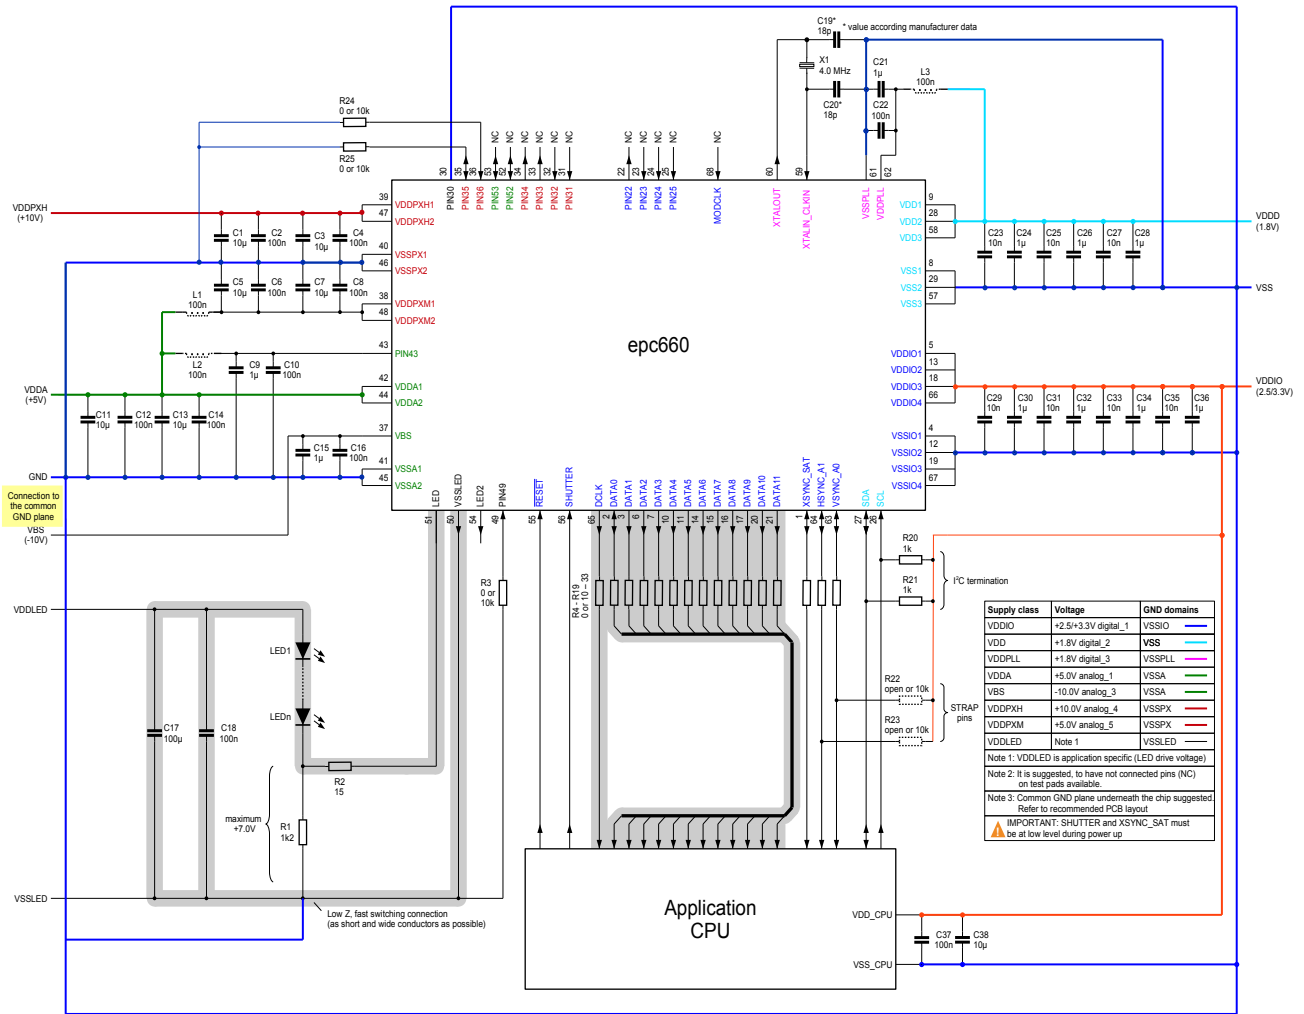
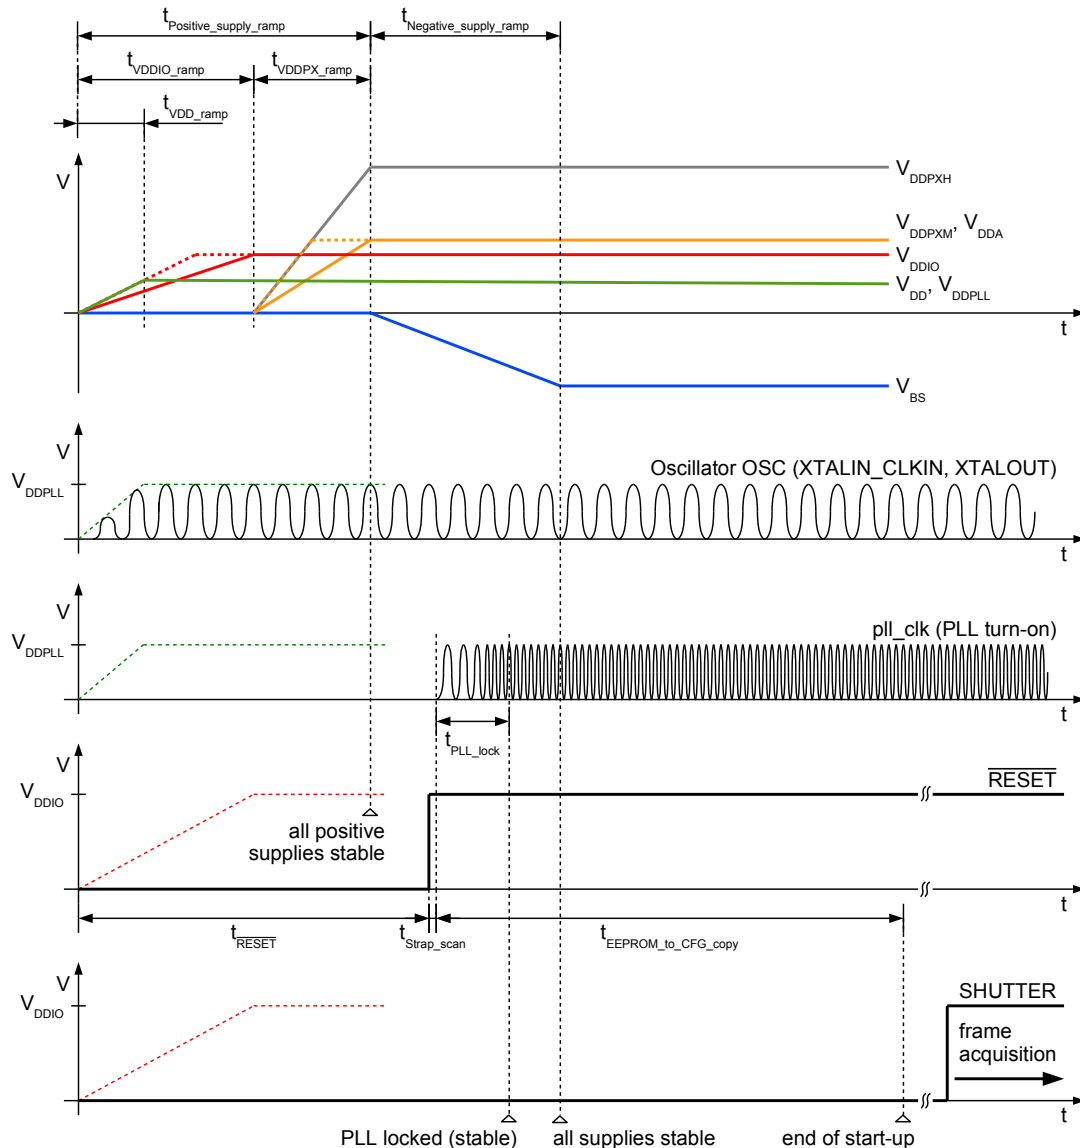

Figure 17: Typical application diagram
Figure 21: Power-up and reset sequence
Table 11: Values of component related to epc660 chip, see Figure 17
1. epc660 is supplied with +1.8V, +2.5/3.3V, +5V, +10V and -10V. See Figure 17.
3. +1.8V is used for supplying the digital logic (VDD), the on-chip oscillator OSC and the phase-look-loop PLL (VDDPLL). These supplies are marked in the application diagram as VDD and VDDPLL respectively (Figure 17). Their supply wiring must be separated from the digital wires and physically isolated from each other. The XTAL/OSC and PLL are critical parts of the chip which directly impacts the optical system performance (i.e. distance calculation). Thereof, the VDDPLL supply needs a well decoupling from VDD, because the digital logic creates some internal switching noise on VDD.
5. +5V is used for supplying analog blocks of the chip e.g. pixel-field drivers and ADC readout circuitry. Refer to Figure 17.
16. Pins not listed here have to be connected according Figure 17.
During the power-up sequence, VDD and VDDPLL supplies (Figure 21) must be applied at the same time to the epc660. VDDIO can be applied either at the same time or after VDD and VDDPLL supplies become stable. In a system where VDDIO voltage is connected in parallel to application CPU IO supply pins (see Figure 17), VDD and VDDPLL can be generated by a linear regulator directly from VDDIO supply. In this case, all these three supplies ramp together.
The epc660 starts using either the internal 4MHz oscillator OSC with a crystal/resonator (Figure 17) or an external 4MHz clock, followed by an EEPROM copy sequence in parallel to the PLL turn-on phase. This is the factory default configuration. Several configuration registers are modified by copying the EEPROM content (Figure 58, i.e. overwrite reset values).
The epc660 has output pins with dual/alternative functionality for PCB level flexible start-up configuration changing, called 'strap pins'. RESET release is followed by a strap pin scanning step. The chip programs its strap pins as inputs with internal pull-down resistors enabled for 4 osc\_clk periods (refer to Table 1 and Table 3.). If there is no external pull-up resistor connected, the corresponding strap pin will be scanned as logic 0 due to the internal pull-down resistor. If there is an external pull-up resistor connected (Figure 17), it will override the internal pull-down and corresponding pin will be scanned as logic 1. After the strap scan period, pins are programmed back as outputs so that they can be used for their main function. Strap pins and their definitions are listed below (Table 12).